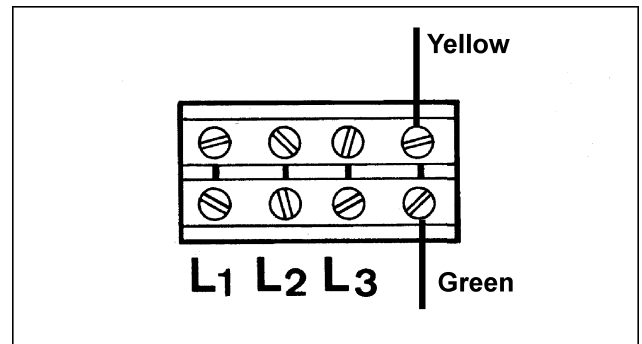

FIGURE 16
2. Remove the electrical box cover and introduce the cable. Connect the three wires to the terminals L1, L2, L3 (Fig. 16).